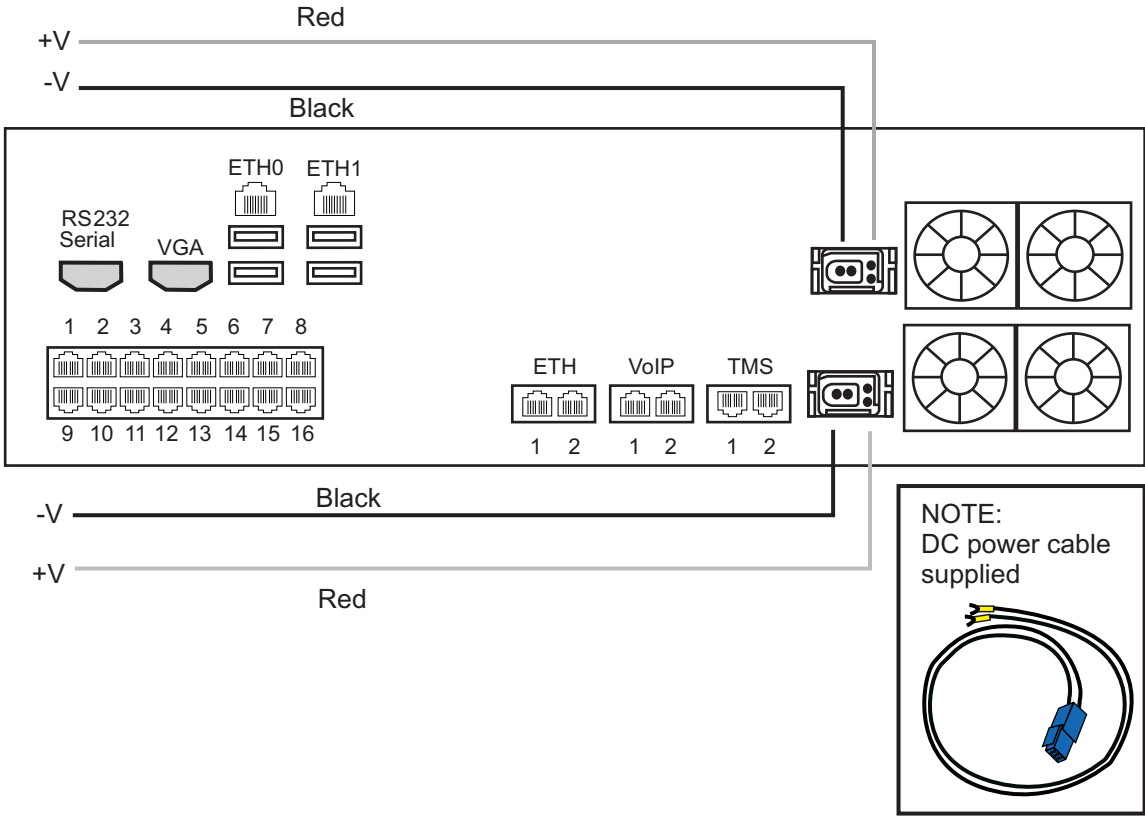

Figure 2.11 TMG5800 DC wiring diagram
1. Connect the DC cable supplied with the TMG5800, as shown in figure 2.11 on page 21, to the DC outlet at the rear of the TMG5800.
2. Connect the red lead of the DC power cable to the positive terminal of the DC power source, as shown in figure 2.11 on page 21.